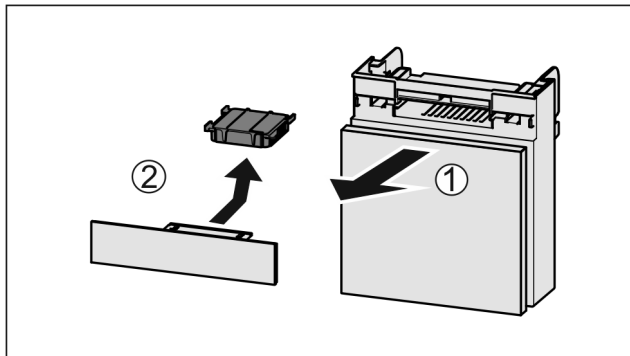

Fig. 233
- Pull out the compartment Fig. 233 (1).
- Remove the carbon filter Fig. 233 (2).